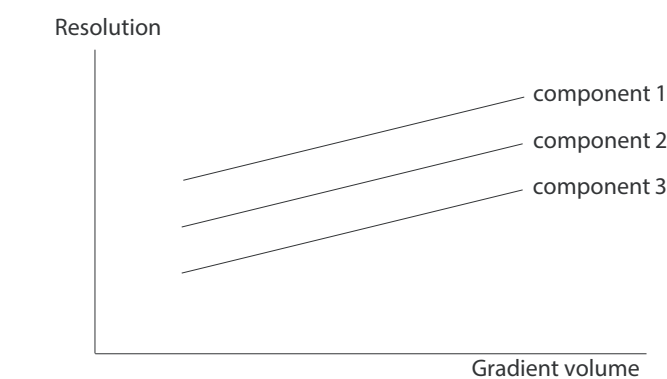
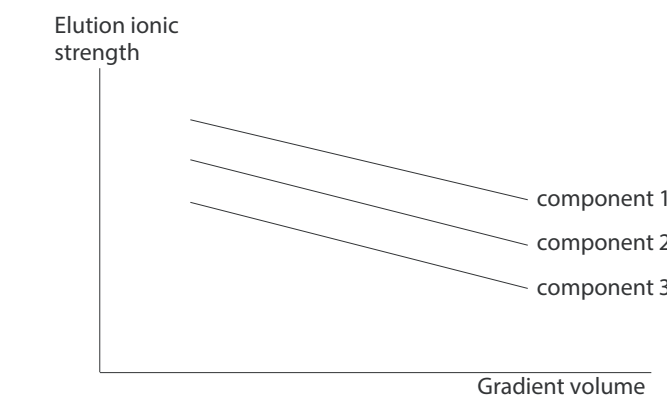

Fig 2.
Fig 3.
2. Optimise the gradient volume to get the best resolution. The resolution increases with increasing gradient volume (Figure 2, on page 3). At the same time, the elution ionic strength for the separated components is reduced (Figure 3, on page 3).